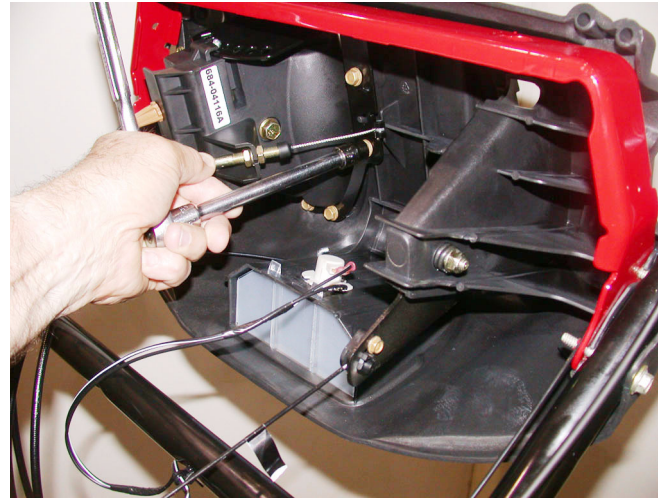

Figure 15.7
- 15.7. Remove the (6) screws that fasten the joystick to the dash with a 3/8" socket. a 6" extension may be handy at this time. See Figure 15.7.